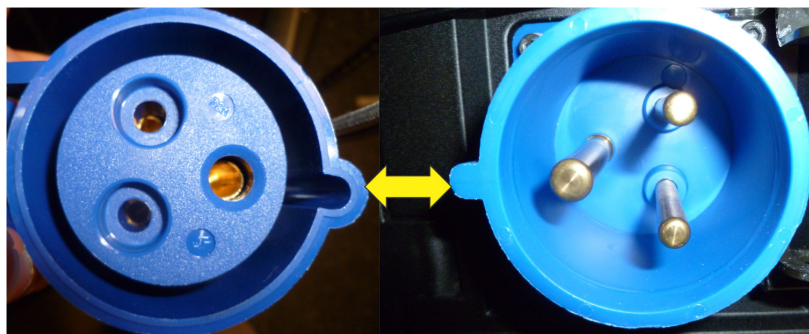

FIGURE 2-7
2. Open the cap on the AC plug and line up the slot on the plug with the pin on the receptacle. See *Figure 2-7*.